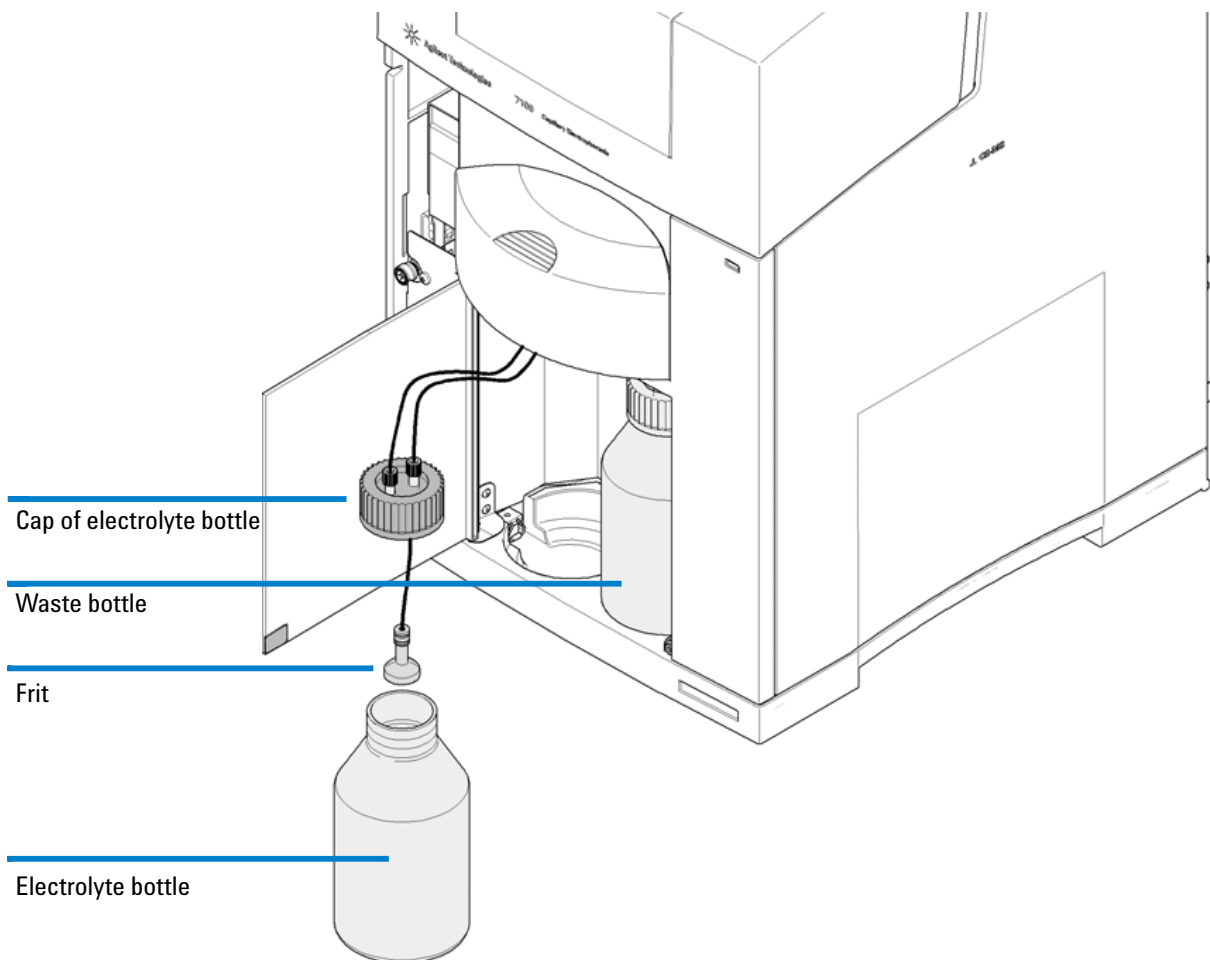

Figure 24 Filling the replenishment bottles
- 4 Take out the electrolyte bottle and unscrew the cap. The electrolyte bottle has a frit and tubing inside. Avoid contaminating the frit (see Figure 24 on page 113).